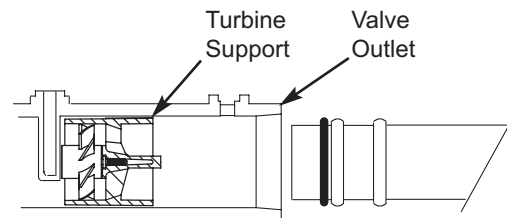

FIG. 9
- Make sure the turbine support is in place in the valve outlet, as shown in Figure 9.